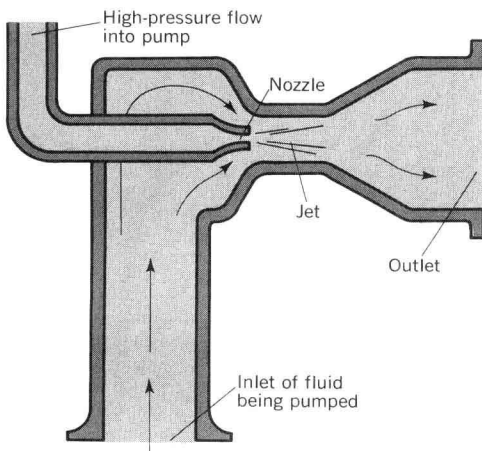

Fig. 9. Jet Pump. High-pressure fluid entering the pump forms a jet as it goes through the nozzle and causes the fluid to be pumped in the direction of the jet.
**Jet Pumps.** Jet pumps are frequently used in wells for small capacities and lifts not exceeding 250 feet (76 meters). The jet pump makes use of the principle that a jet of fluid will entrain surrounding fluid and cause it to flow in the direction of the expanding jet. A widely used arrangement for farm water-supply systems consists of a combination of a centrifugal pump and a jet pump as shown in Fig. 9, the centrifugal pump furnishing the driving head and water to create the jet. Because of the entrainment principle, more water flows up the vertical pipe than is delivered by the jet. Among the advantages of the centrifugal-jet pump combination are the accessible location of the centrifugal pump and motor on the ground surface and the fact that there are no moving parts of the pump submerged in the well.